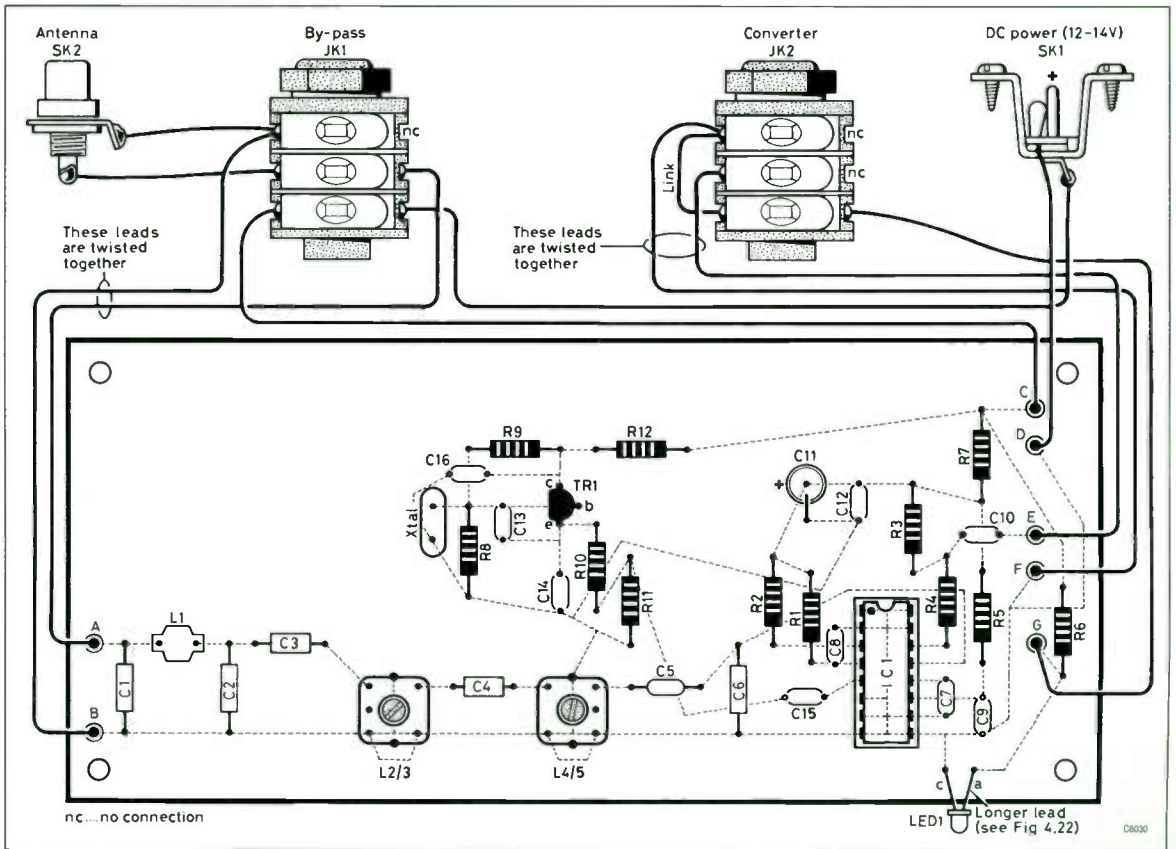
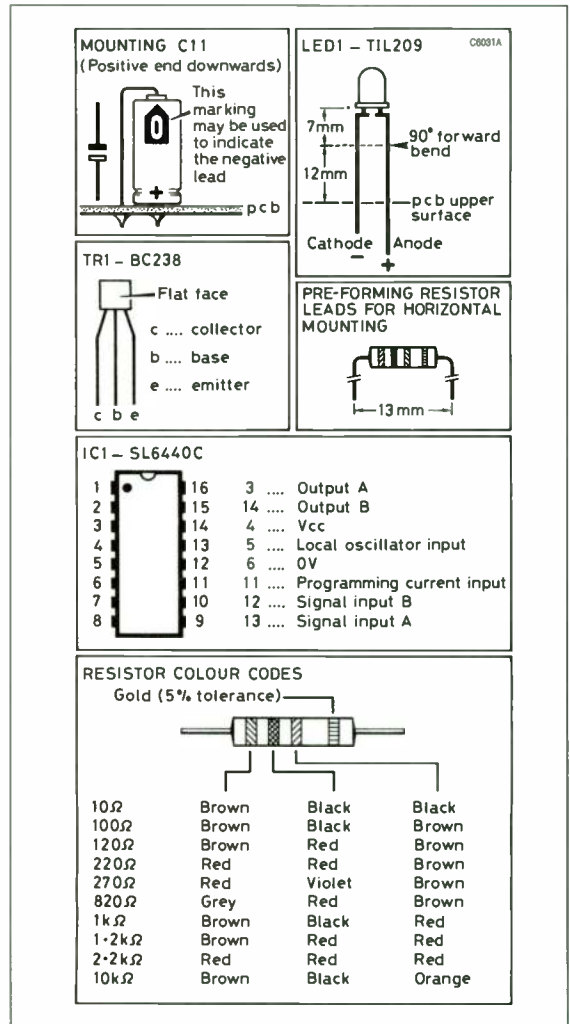

Fig 4.21. PCB component layout and flying-lead connections
Fig 4.22. Component identification
1. Using Fig 4.21 as a guide, mount and solder the IC socket onto the PCB, but do not insert IC1 at this stage. Similarly fit L1 (this component has a light-coloured plastic encapsulation and will probably be marked '2R2K'), L2/3, L4/5 and the XTAL (this component is built into a sealed metal can). It does not matter which way round you mount L1 or the XTAL – the same applies to resistors and all the capacitors with the exception of C11. L2/3 and L4/5 can only be seated a certain way round because they both have three pins on one side of their base but only two pins on the other. Note also that the metal screening cans of L2/3 and L4/5 have two small lugs which will protrude through holes in the PCB – these must be soldered as well.
2. The resistors R1–12 are mounted next. These sit horizontally on the PCB and so their leads must be bent through 90° – see Fig 4.22 which shows this more clearly and also gives the relevant colour codes. Each pair of holes on the PCB intended for resistors is spaced 13mm apart. As the resistor bodies are only about 7mm long, leads will need to be bent at a point approximately 3mm from the component body. The best way of doing this is to hold the lead being bent in the jaws of a pair of long-nosed pliers. After soldering, the leads should be cropped using wire cutters.
Fig 4.20. PCB holes are all 1mm diameter except for those intended for the screening can tags of L2/3 and L4/5 which are 1.5mm diameter. Use Fig 4.21 as a drilling pattern
5. Using Figs 4.21 and 4.22 as a guide, mount the remaining components: C11, TR1 and LED1. Be careful to get C11 the right way round (positive end downwards, as shown in Fig 4.22). Look for the flat face on the body of TR1 and mount it with this face towards the XTAL. LED1 is probably the trickiest component to mount as it must be soldered the correct
8. Final assembly of the converter involves bolting the PCB into the case and then connecting the far end of each flying lead to the appropriate socket as indicated in Fig 4.21. Note: remember to use the spacing pillars on the bolts supporting the PCB. You will now
Adding the finishing touches to the converter will merely consist of sticking the rubber feet onto the underside of its base and inserting IC1 into the DIL IC socket on the PCB. IC1 must be inserted the correct way round – look for the notch in its encapsulation and compare this with Fig 4.21.